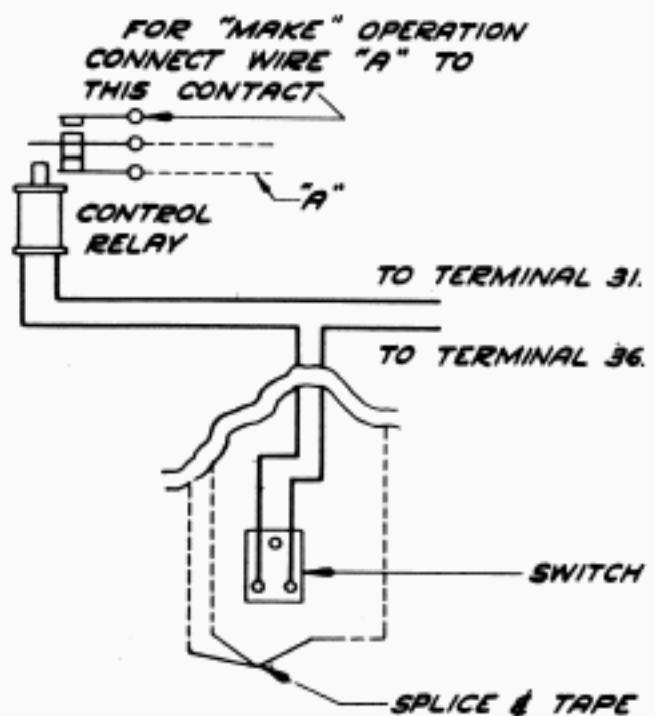

FIGURE 3
- 1. In order to render the motor control relay operative, wiring changes at the switch and the control relay are necessary, as shown in Figure 3. For "break" operation, invert the power switch to make "on" and "off" designations on cover agree with the operation of the switch. Wiring shown is for "break" operation.